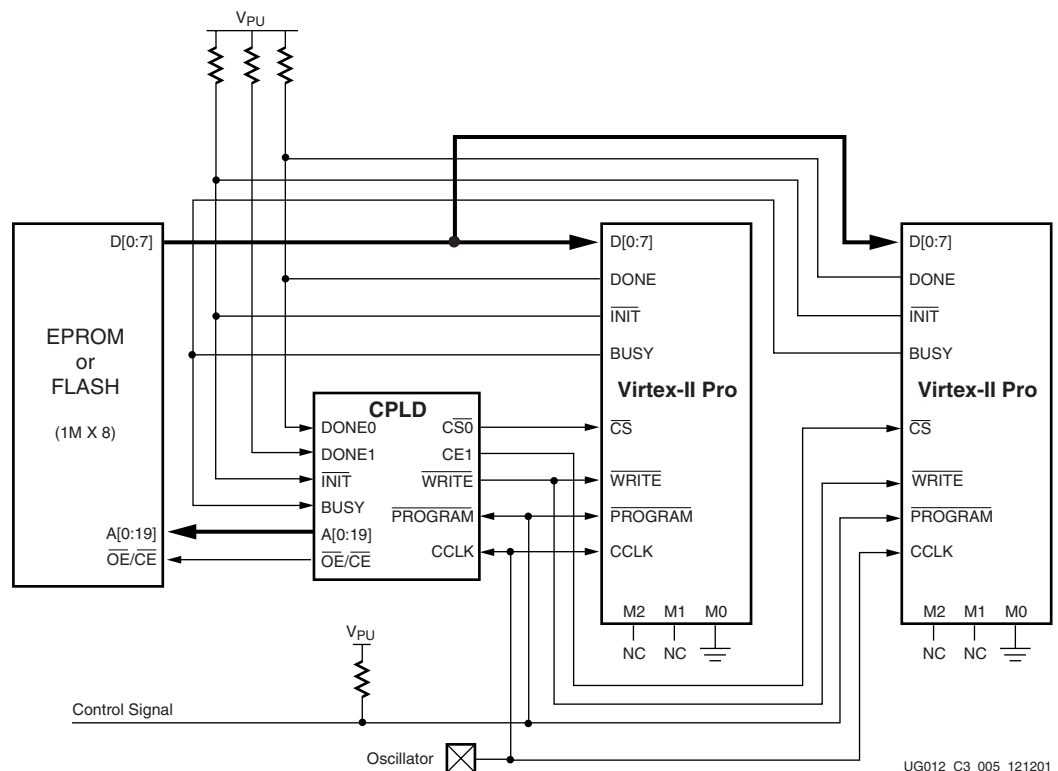

Figure 3-9: Configuring Virtex-II Pro Devices from Parallel EPROMs
- XAPP137, *Configuring Virtex FPGAs From Parallel EPROMs With a CPLD* ([www.xilinx.com/apps/xappsumm.htm#xapp137](http://www.xilinx.com/apps/xappsumm.htm#xapp137)) describes an architecture that configures one or more Virtex-II Pro devices using the Slave SelectMAP mode. See Figure 3-9 for an example of FPGA configuration using a CPLD and a parallel EPROM.